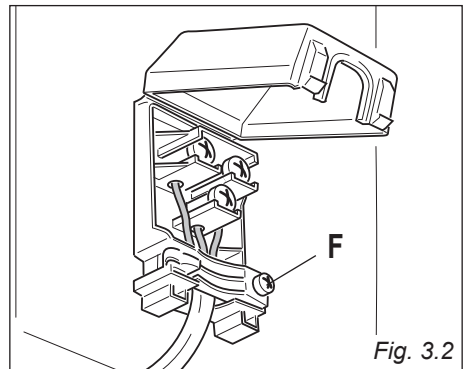
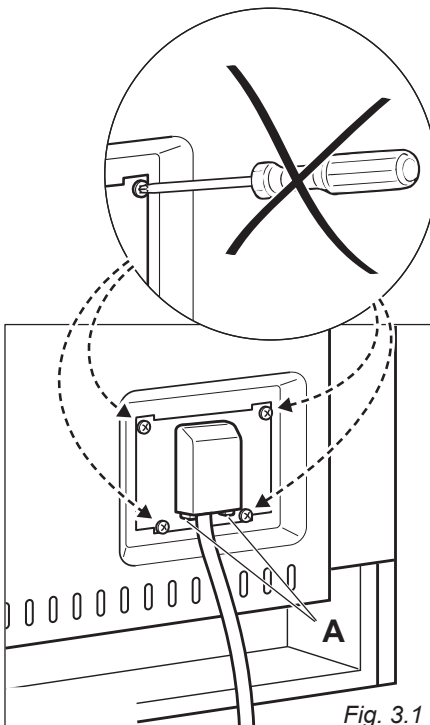

Fig. 3.2
Fig. 3.1
- Unhook the terminal board cover by inserting a screwdriver into the two hooks “A” (fig. 3.1).
- Open the cable gland by unscrewing screw “F” (fig. 3.2), unscrew the terminal screws.
Gas flow to the burners is adjusted by turning the knobs (illustrated in fig. 3.1) which control the safety valves.
1. Press in the corresponding knob and turn counter-clockwise (fig. 3.2) to the full flame position marked by the  symbol (fig. 3.1); hold the knob in until the flame has been lit.